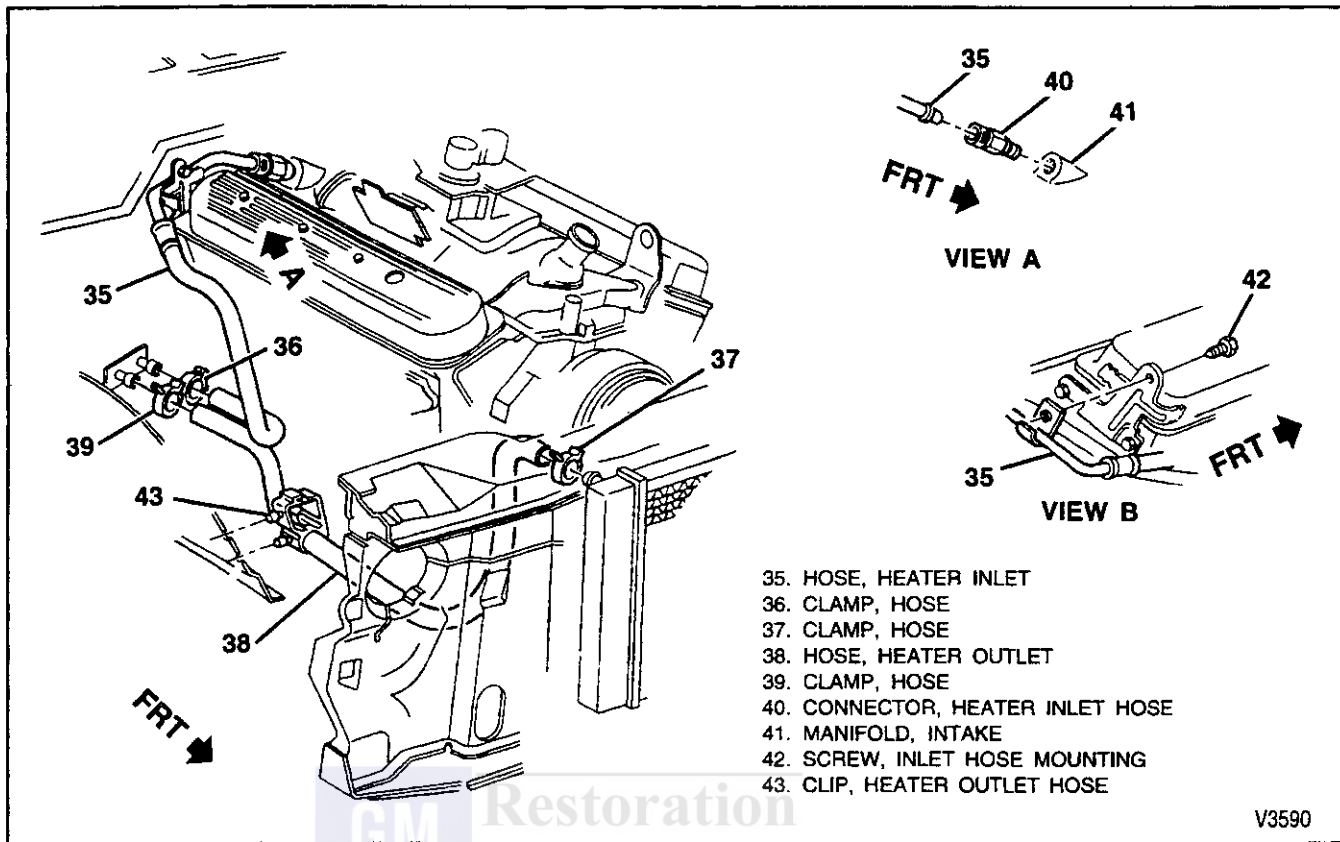

Figure 15—Heater Hose Routing (4.3L, 5.0L, and 5.7L Engines)
### Remove or Disconnect (Figures 15, 16, and 18)
### Install or Connect (Figures 15, 16, and 18)
**Remove or Disconnect (Figures 15 and 16)**
3. Outlet hose clip (43).
4. Outlet hose (38) from heater core.
5. Outlet hose (38) from radiator.
**Install or Connect (Figures 15 and 16)**
1. Outlet hose (38) to radiator.
2. Outlet hose (38) to heater core.